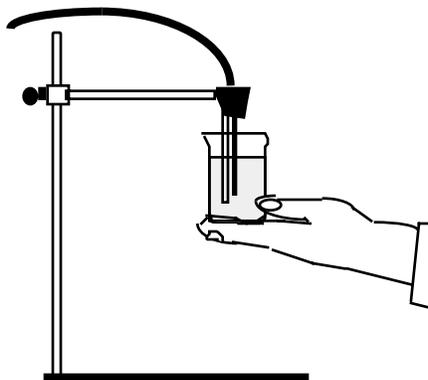

Figure 1
10. Raise cup #1, containing distilled water, until the electrodes of the probe are at least half submersed, but not touching the beaker. (Figure 1). Wait for the CBL readings to settle, then record the conductivity value in Table 1 Individual Data.